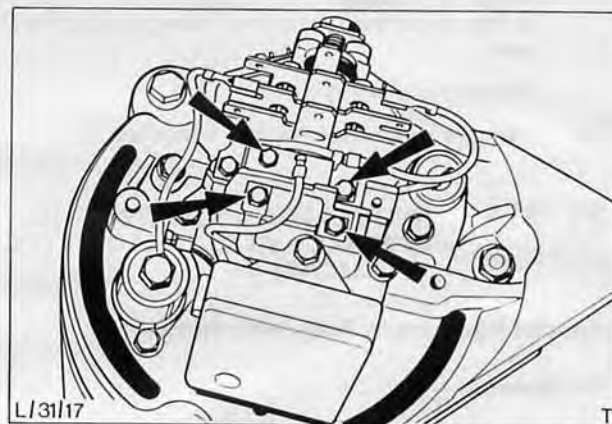

Fig. 59. Brush box retaining screws
5. Remove brush retaining screws and withdraw brush assemblies from brush box, Fig. 59.